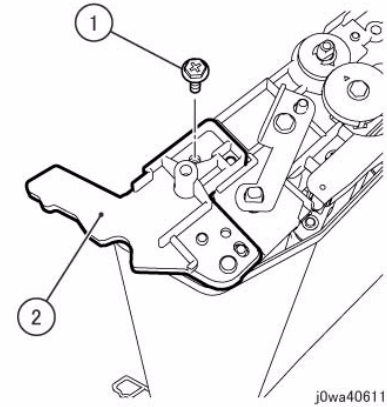

Figure 4 Remove the BUR Front Frame
9. Remove the BUR Front Frame. (Figure 4)